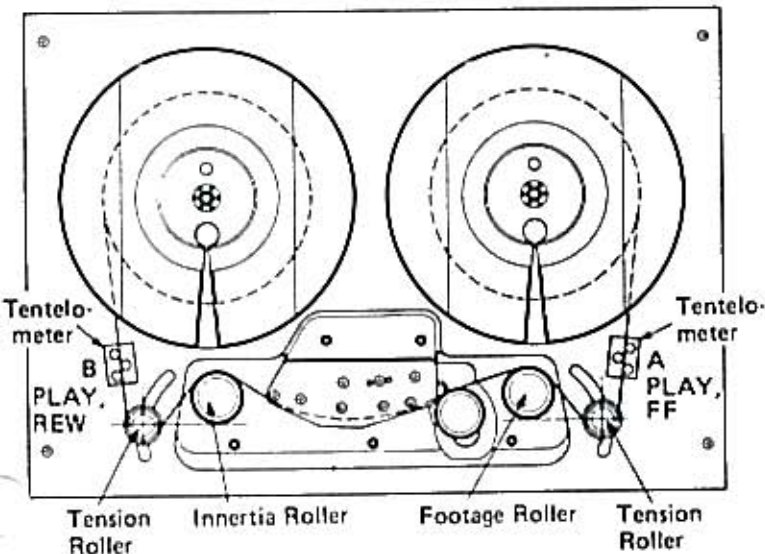

Fig. 1-3-8
4. Adjust R112 (for left tension arm) and R212 (for right tension arm) so that the top center of the tension rollers aligns with the forward outer edge of the inertia and footage rollers as shown in Fig. 1-3-8.